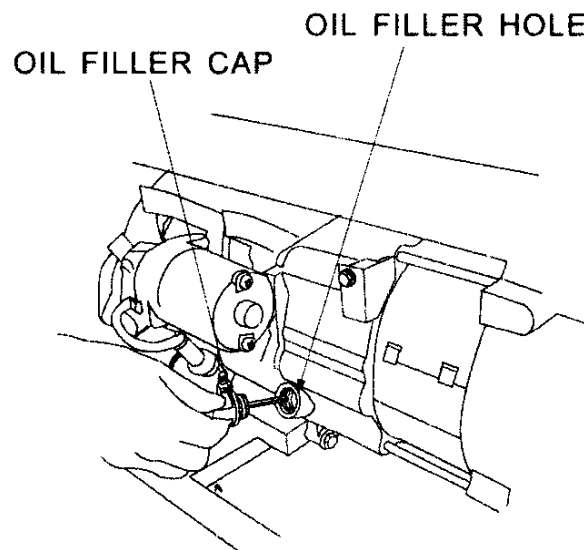

Figure 14- Checking the Oil
2. Unscrew the oil filler/dipstick cap (see figure 14).
2. Unscrew the oil filler/dipstick cap from the engine as shown in figure 14 above.